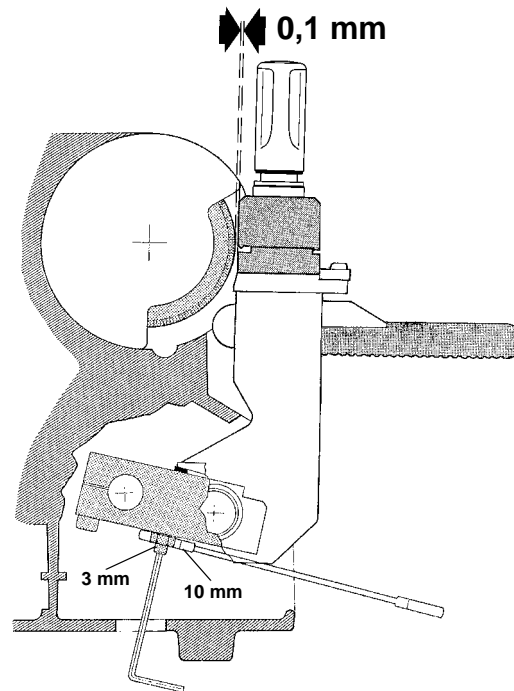

Fig. 28
- 2) Release the carriage and raise (against the cutting tool) at the end of run (fig.28).